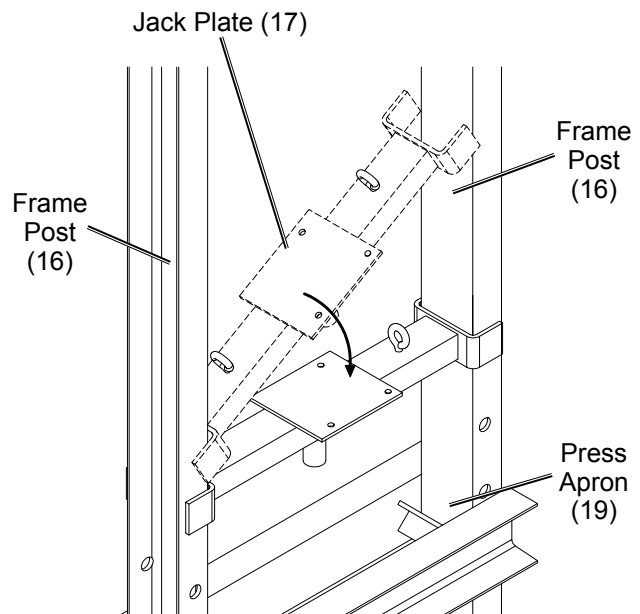

Figure 6
8. Angle the Jack Plate (17) so the rails of the Jack Plate straddle the Frame Posts (16), then lower into place by sliding it down the Frame Posts so it rests temporarily on the Press Apron. Ensure Jack Plate orientation matches Figure 6.